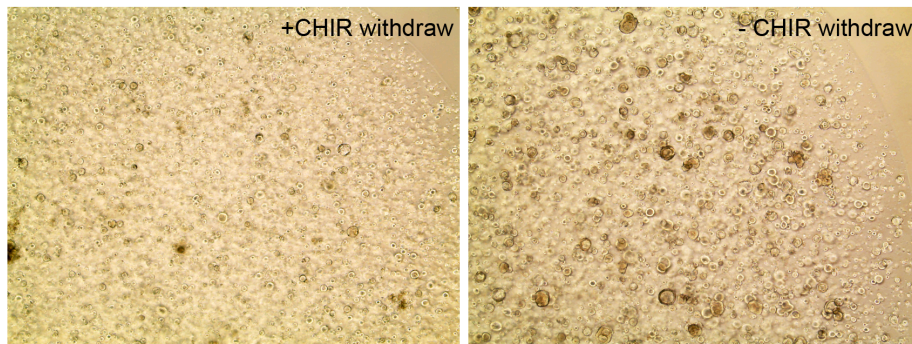

Figure 7: CHIR withdrawal and addback. 2000 cells/ $\mu$ L of undiluted 3D Matrigel on Day 40.
- Incubate for 10 days, feed cells every other day by CK+DCI medium. (Fig.7)